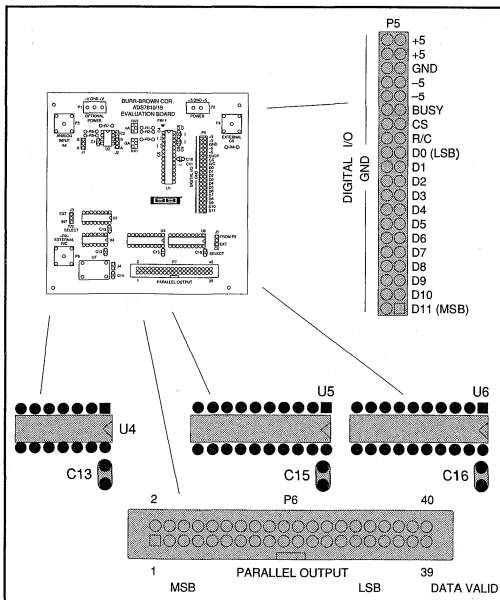

FIGURE 10. Factory Settings for Step 5.
- A) P5 outputs full parallel data — See Figure 10.
- B) P6 outputs buffered full parallel data—See Figure 10.